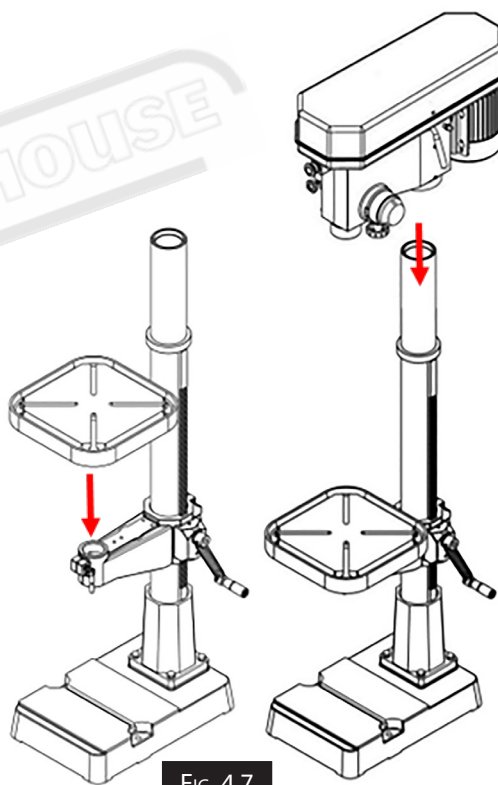

FIG. 4.7
7. The headstock must be mounted on the column/base assembly before the drill press can be operated. Loosen the two set screws on the right side of the headstock enough so they are flush with the inside pocket of the headstock. (Fig.4.7)